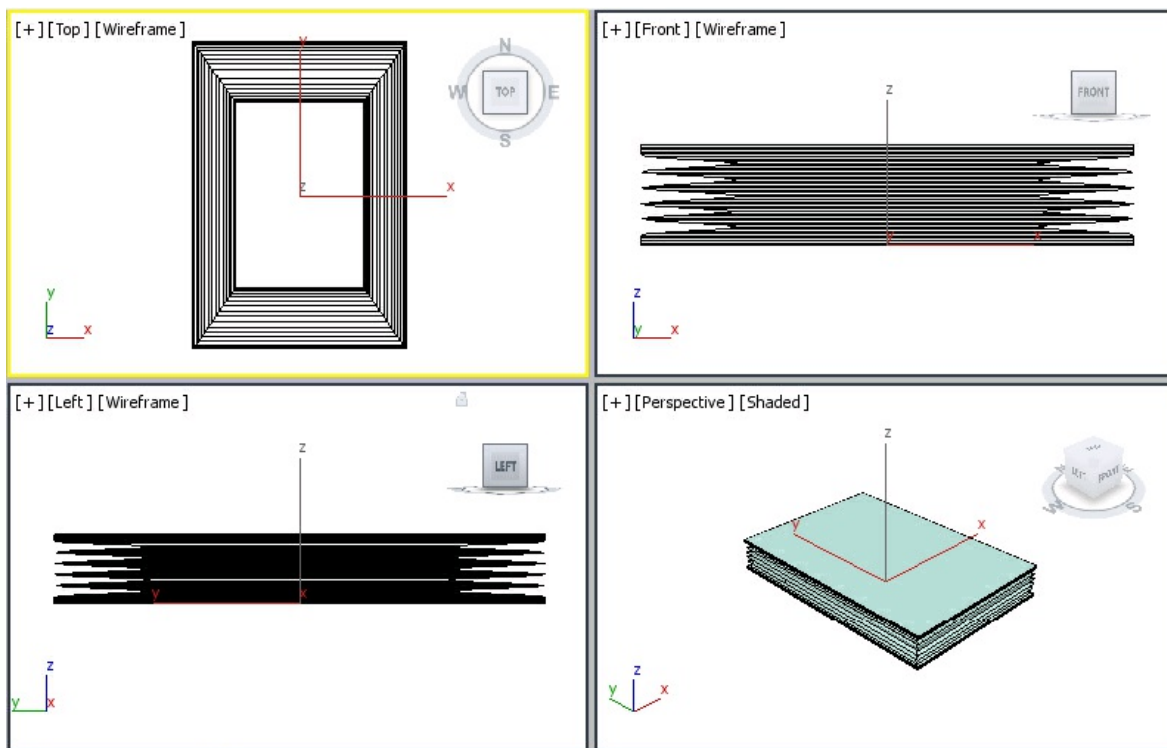

Figure 5-70 The book geometry after invoking the **Zoom Extents All** tool
6. Choose the **Zoom Extents All** tool to view *book* in viewports, as shown in Figure 5-70.